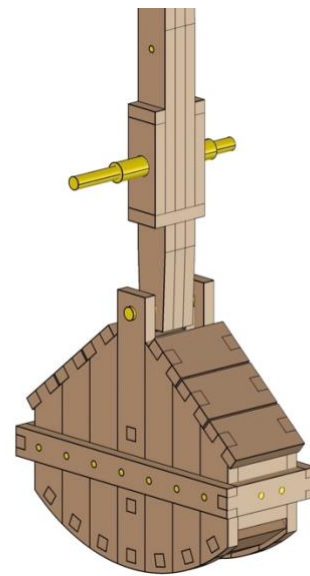

Fig. 89
- *Fig. 89* shows the completed process.